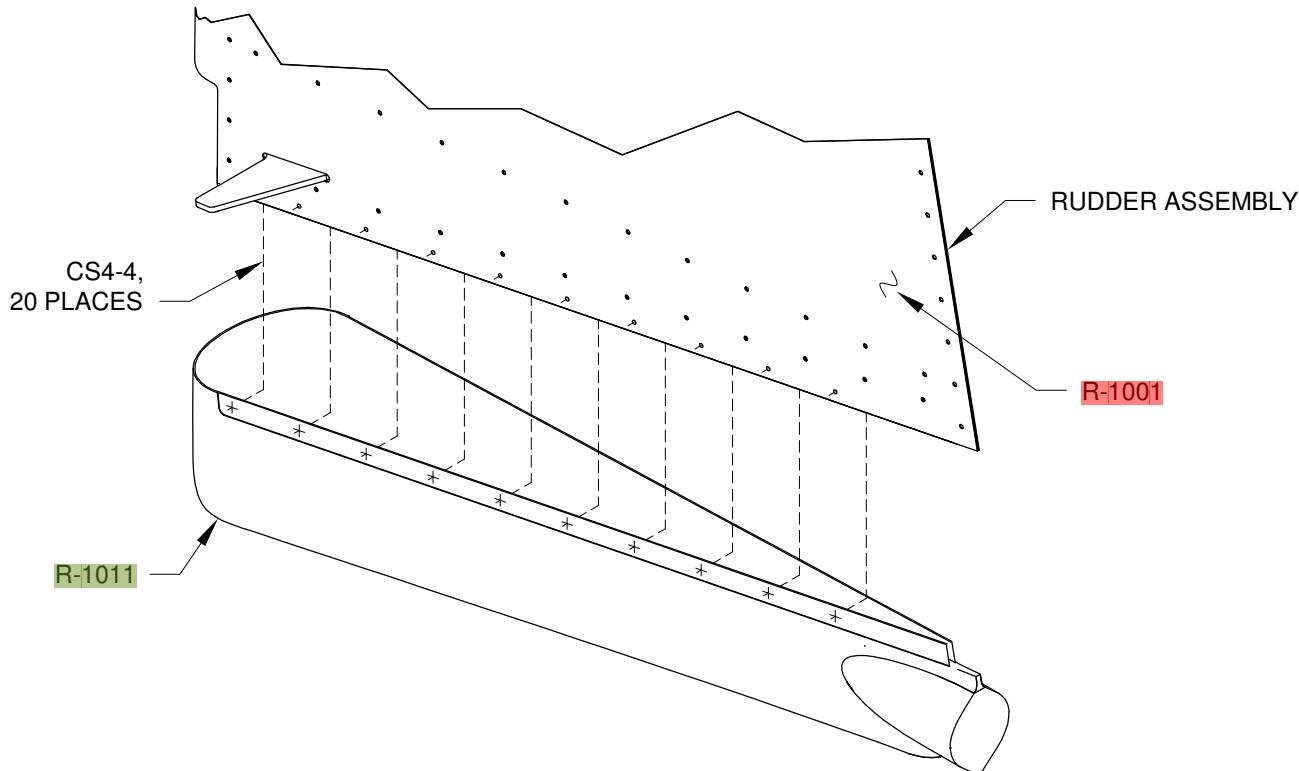
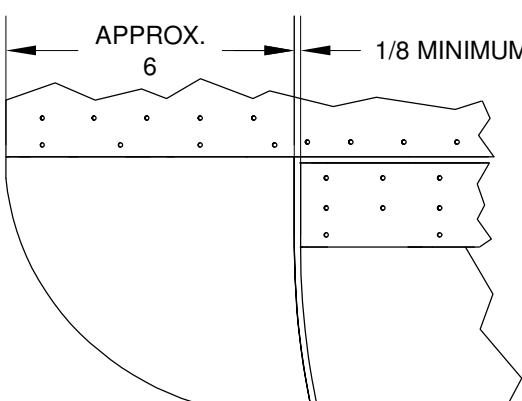

FIGURE 1: INSTALLING THE R-1011 RUDDER BOTTOM FAIRING
FIGURE 2: CREATING GAP
Step 4: Cleco and rivet the R-1011 Rudder Bottom Fairing onto the rudder assembly per the callouts in Figure 1.
Step 5: Trim the width of the molded flange on the HS-910 Horizontal Stabilizer Tip Fairing if required to meet the dimensions given on Page 12-2, Figure 1. Progressively trim away the aft edge of the horizontal stabilizer tip fairing to leave a minimum 1/8 inch gap between the aft edge of the tip fairing and the forward face of the elevator counterbalance arm. See Figure 2. It will be necessary to temporarily attach the elevator to the horizontal stabilizer assembly, see Page 11-2, Step 3.